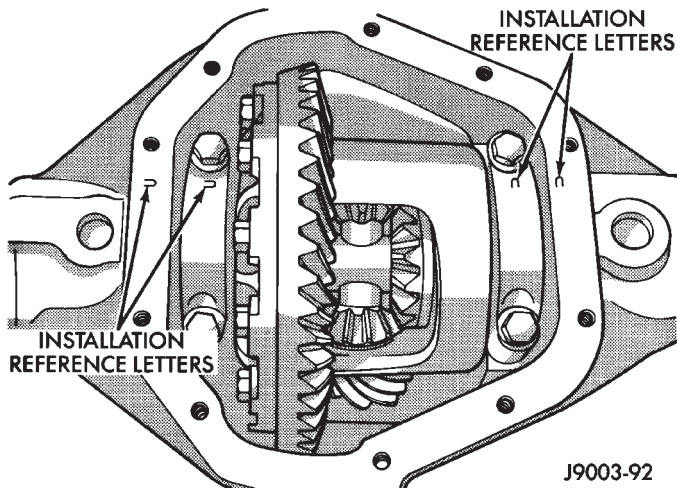

Fig. 29 Differential Bearing Cap Reference Letters
(6) Install the bearing caps at their original locations (Fig. 29).